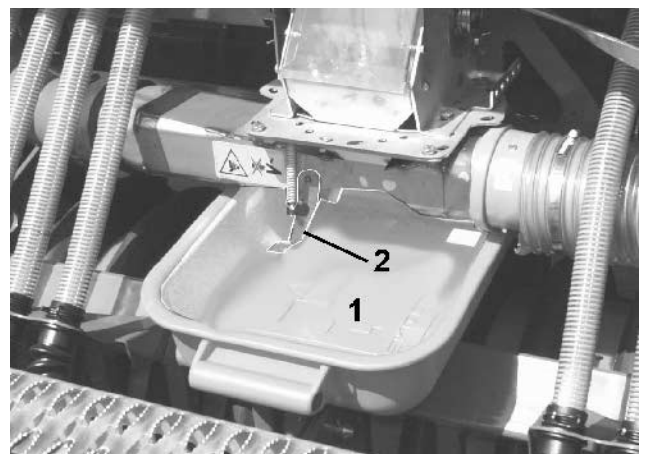

Fig. 97
Open the injector sluice flap (Fig. 97/1) to allow the seed to flow into the seed collecting trays.
**Danger of squeezing when opening and closing the injector sluice flap (Fig. 97/2).**
**Only hold the injector sluice flap at the strap (Fig. 97/1) as otherwise danger of injury exists when the spring loaded flap shuts.**